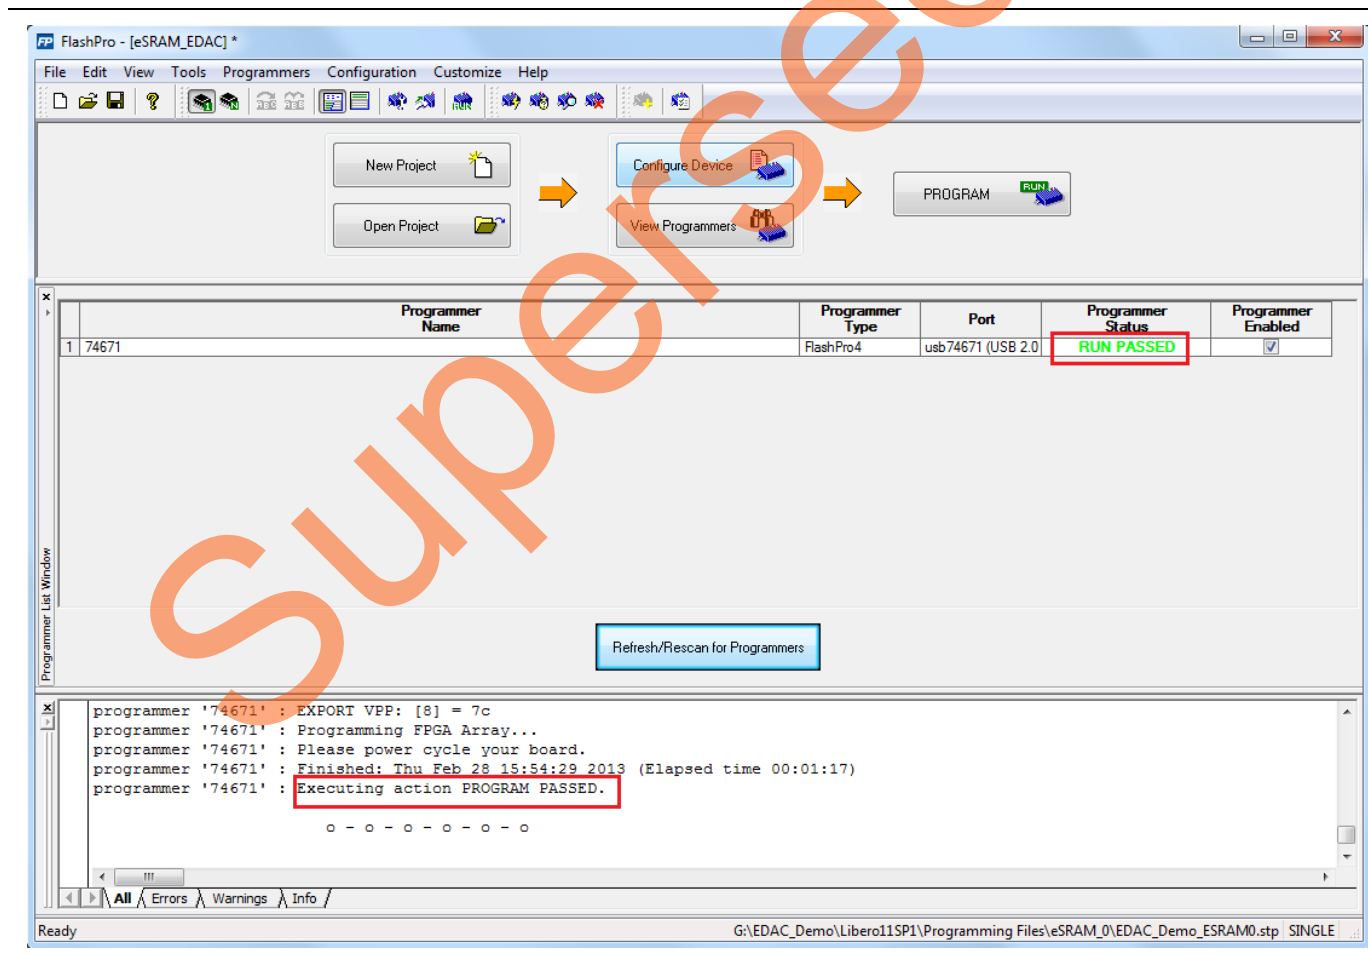

Figure 6. FlashPro Programming Window
2. Program the SmarFusion2 device with the programming file provided in the design files (`\ProgrammingFiles\eSRAM_0\EDAC_Demo_eSRAM0.stp` or `\ProgrammingFiles\eSRAM_1\EDAC_Demo_eSRAM1.stp`) using FlashPro design software, as shown in Figure 6.